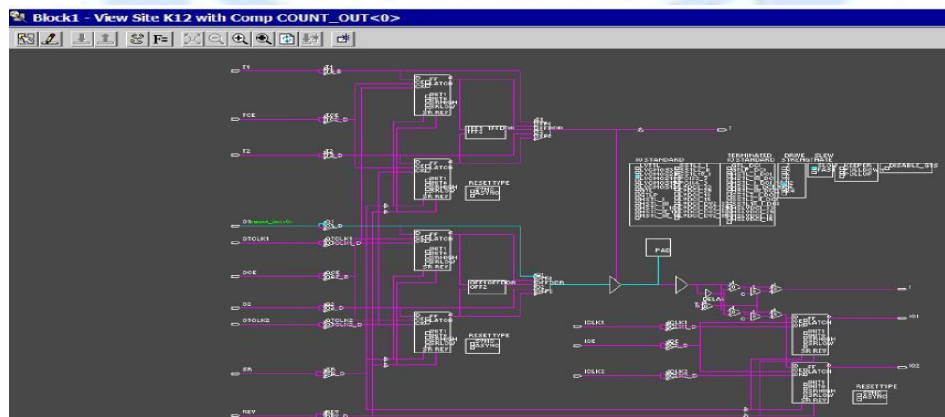

Figure 2: FPGA Editor - Detailed View
5. Push into (double-click) the red-highlighted **COUNT_OUT K12** IOB. You should see Fig 2.